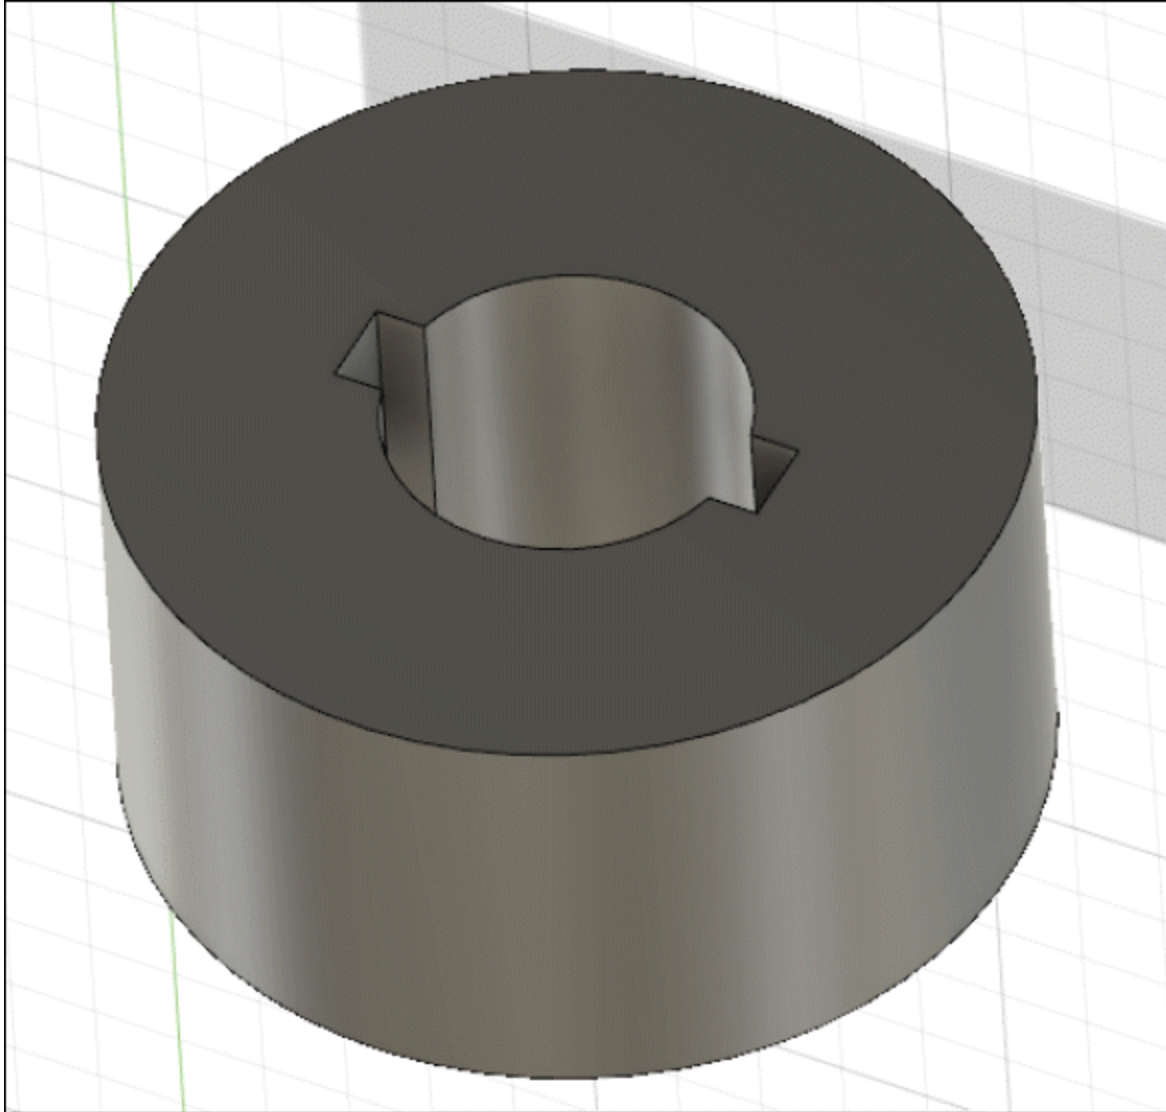

Figure-7. Final model of practical 1
- Click **OK** button from **EXTRUDE** dialog box to complete the process of extrusion. The model will be displayed as shown in Figure-7.